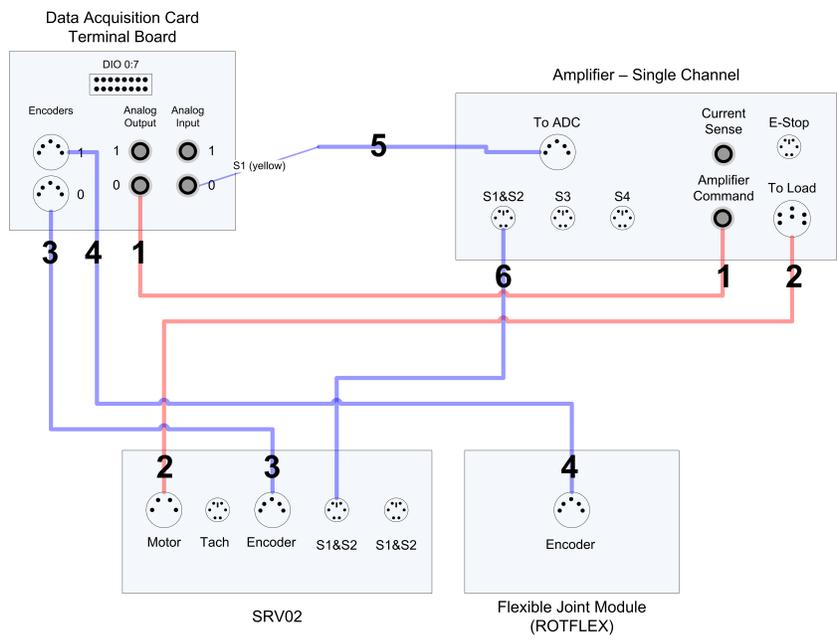

Figure 5.1: SRV02 and ROTFLEX Module Wiring Diagram
3. Connect one of the connectors on the 2x RCA to 2x RCA cable from the *Analog Output Channel #0* on the terminal board to the *Amplifier Command* Connector on the Quanser amplifier. See cable #1 shown in Figure 5.1.
4. Connect the 4-pin-stereo-DIN to 6-pin-stereo-DIN from *To Load* connector on the amplifier to the *Motor* connector on the SRV02. See connection #2 shown in Figure 5.1. The cable transmits the amplified voltage that is applied to the SRV02 motor.
5. To use the encoder to measure the load gear angle connect the 5-pin-stereo-DIN to 5-pin-stereo-DIN cable from the *Encoder* connector on the SRV02 panel to *Encoder Input Channel #0* on the terminal board, as depicted by connection #3 in Figure 5.1. This carries the load shaft angle measurement by the encoder.
6. Connect the connector on the ROTFLEX directly to *Encoder Input Channel #1* on the terminal board, as depicted by connection #4 in Figure 5.1. It carries the arm angle measured by the encoder.
7. **[Optional]** If you are using the SRV02 potentiometer (i.e., instead of the encoder), connect the *To ADC* socket on the amplifier to *Analog Input Channels #0-1* on the terminal board using the 5-pin-DIN to 4xRCA cable, as illustrated in Figure 5.1 by connection #5. The RCA side of the cable is labeled with the channels. Note that the cable with label "1" (yellow connector) goes to *Analog Input Channel #0*.
8. **[Optional]** If you are using the SRV02 potentiometer, connect the *S1 & S2* connector on the SRV02 to the *S1 & S2* socket on the amplifier using the 6-pin-mini-DIN to 6-pin-mini-DIN cable. See connection #6 in Figure 5.1. This carries the voltage signal from the potentiometer.